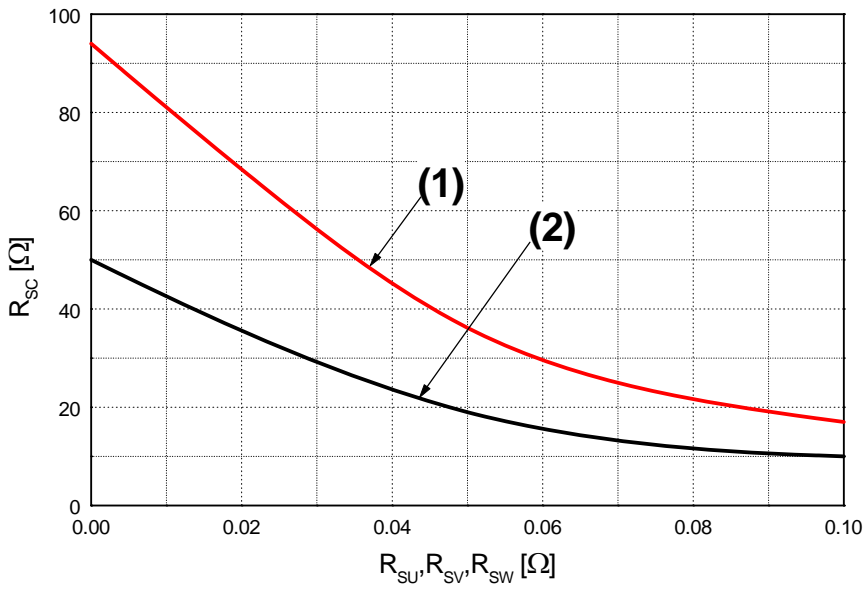

Fig. 7. R_{sc} Variation by change of Shunt Resistors (R_{SU}, R_{SV}, R_{SW}) for Short-Circuit Protection
5. Short-circuit current protection is functioning only at the low-sides. It would be recommended that the value of the external sensing resistor (R_{SC}) should be selected around 50 Ω in order to make the SC trip-level of about 22.5A at the shunt resistors (R_{SU}, R_{SV}, R_{SW}) of 0 Ω. For the detailed information about the relationship between the external sensing resistor (R_{SC}) and the shunt resistors (R_{SU}, R_{SV}, R_{SW}), please see Fig. 7.